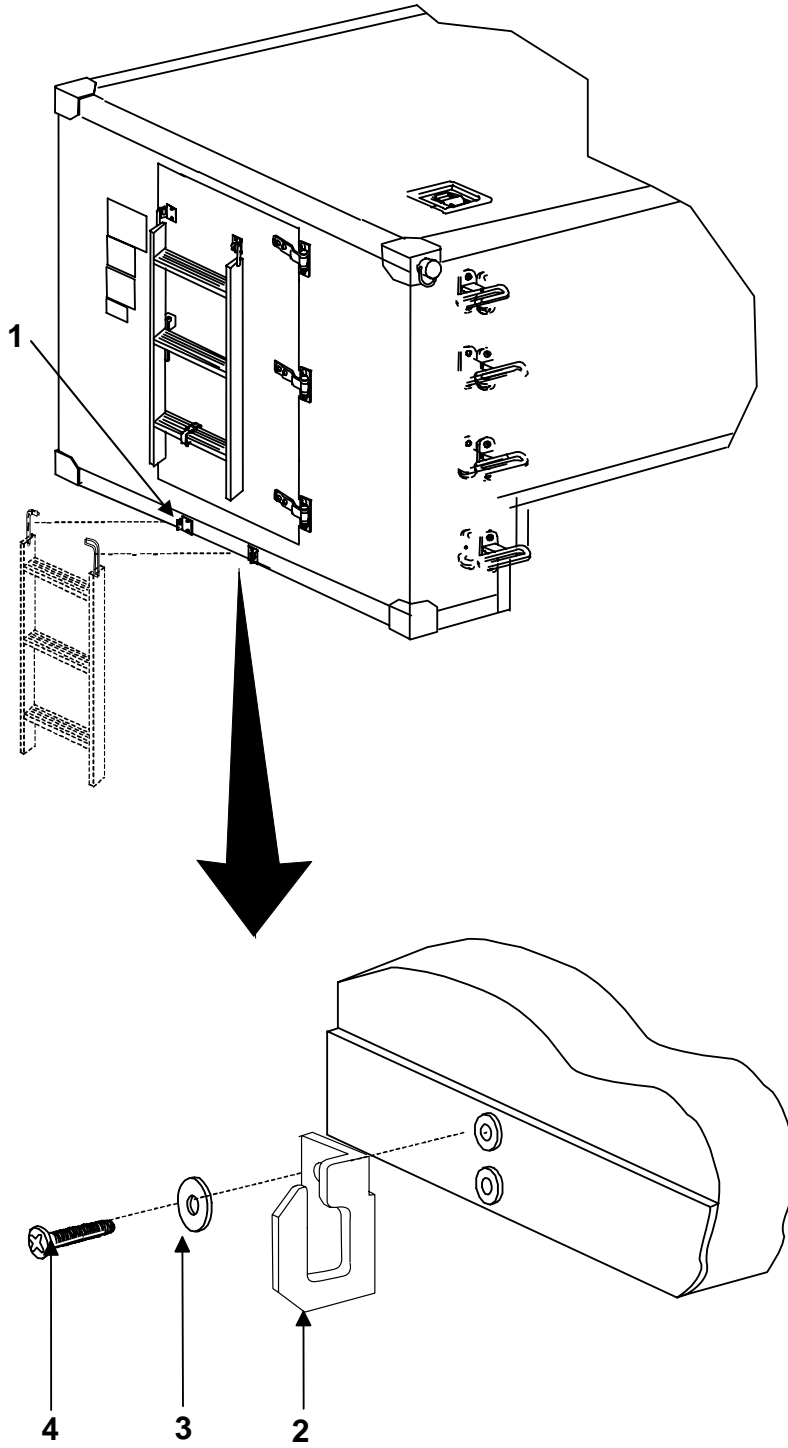

Figure 1. Deployed Ladder Bracket Assemblies.
1. Locate roadside deployed bracket (figure 1, item 1) to shelter and secure using two screws (figure 1, item 4) and washers (figure 1, item 3).
2. Locate curbside deployed bracket (figure 1, item 2) to shelter and secure using two screws (figure 1, item 4) and washers (figure 1, item 3).